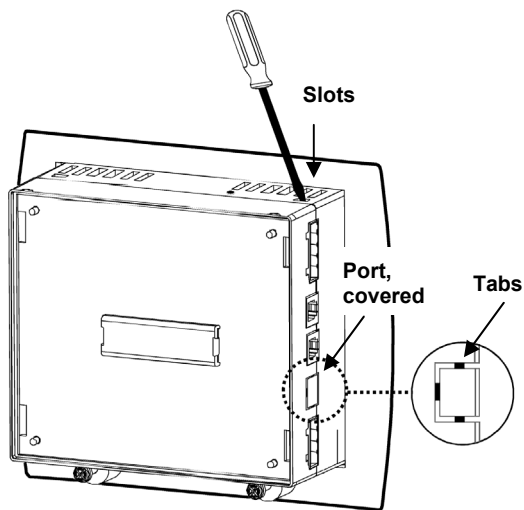

Figure 1. Opening the Controller
4. The port's location is covered by plastic. Remove the plastic covering using a razor cutter to cut through the tabs shown in Figure 1.